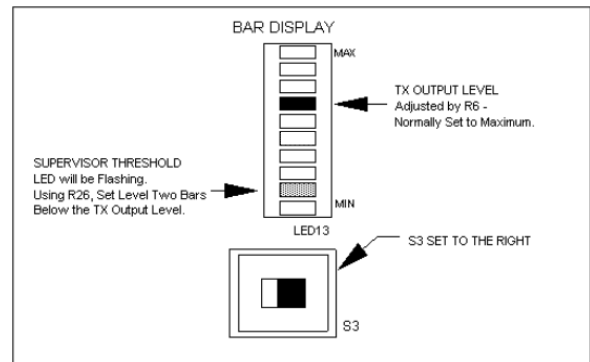

Figure 4.10
- Verify that the Supervise Threshold Level (the “flashing” green bar) is set at the second bar from the bottom on LED13 (Figure 4.10). If necessary, adjust pot R26 (Tx Supervise Threshold) to make it this way.
To tune a one-antenna zone, refer to Figure 4.10 and use the following instructions:
You want to have the “steady” green bar as close to the top of LED13 as you can get it without going off the scale (Figure 4.10). Adjust pot R6 (Tx Gain) to make it this way. If the “steady” green bar is not present, then you need to turn down pot R6.
To tune a two-antenna zone, refer to Figure 4.10 and use the following instructions:
To tune a three-antenna zone, refer to Figure 4.10 and use the following instructions:
3. A “steady” and a “flashing” green bar should be illuminating on LED13. The “steady” green bar is the Tx Output Level and should be above the “flashing” bar but not off the top of the scale. The “flashing” green bar is the Tx Supervise threshold and should be at the second bar from the bottom on LED13 (Figure 4.10).
You want to have the “steady” green bar as close to the top of LED13 as you can get it without going off the scale (Figure 4.10). Adjust pot R6 (Tx Gain) to make it this way. If the “steady” green bar is not present, then you need to turn down pot R6. Turn off power to the system and: